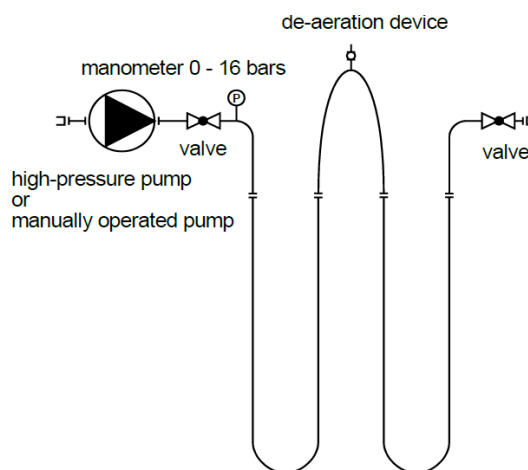

Fig 28 Leak Tightness Configuration
The sequence of valve operation for a single manifold is slightly different from larger manifolds. Each slinky is connected to a three port diverting valve as above. The slots machined on the front of each valve indicate which connection is open. The previous drawing (Fig 28) is set for normal operation, i.e. both purge connections are closed and the flow and return from the slinky to the heat pump are open.
- i. Remove the plastic blanking plugs, and connect the purge pump to the fill and purge ports on the Slinky manifold, see Fig 28. The purge ports need to be connected in the correct flow orientation as shown in Fig 12.